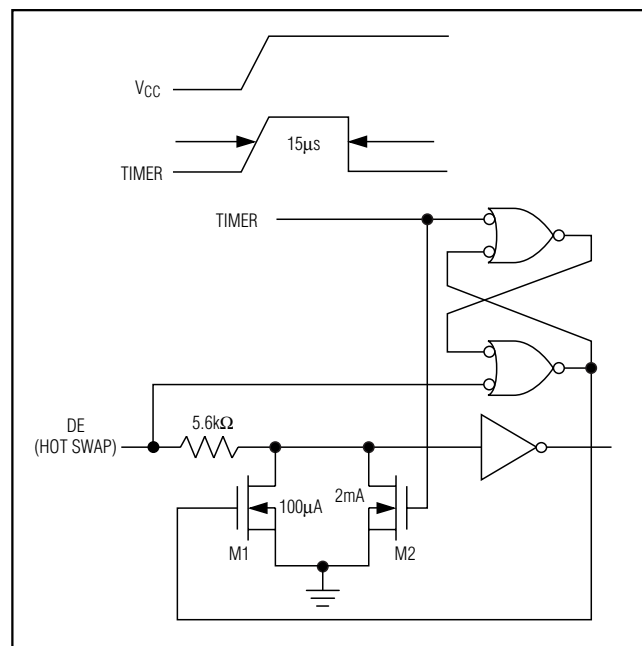

Figure 10. Simplified Structure of the Driver Enable Pin (DE)
At the driver-enable input (DE), there are two NMOS devices, M1 and M2 (Figure 10). When VCC ramps from zero, an internal 15 $\mu$ s timer turns on M2 and sets the SR latch, which also turns on M1. Transistors M2, a 2mA current sink, and M1, a 100 $\mu$ A current sink, pull DE to GND through a 5.6k $\Omega$  resistor. M2 pulls DE to the disabled state against an external parasitic capacitance up to 100pF that may drive DE high. After 15 $\mu$ s, the timer deactivates M2 while M1 remains on, holding DE low against three-state leakage currents that may drive DE high. M1 remains on until an external current source overcomes the required input current. At this time, the SR latch resets M1 and turns off. When M1 turns off, DE reverts to a standard, high-impedance CMOS input. Whenever VCC drops below 1V, the input is reset.